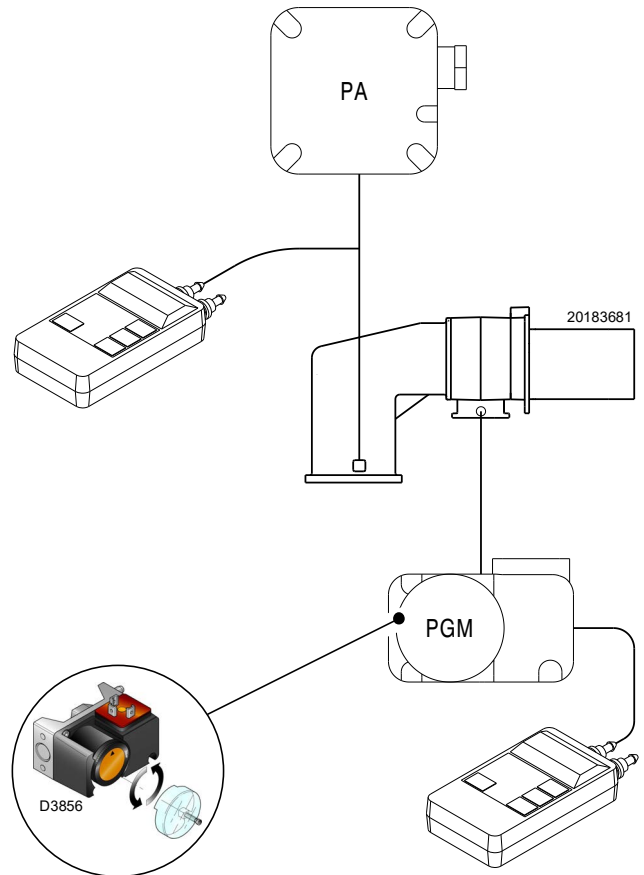

Fig. 49
- Adjust the maximum gas pressure switch (Fig. 49, pag. 41) to the end of the scale.
Adjust the maximum gas pressure switch (Fig. 49) after making all other burner adjustments with the maximum gas pressure switch set to the end of the scale.